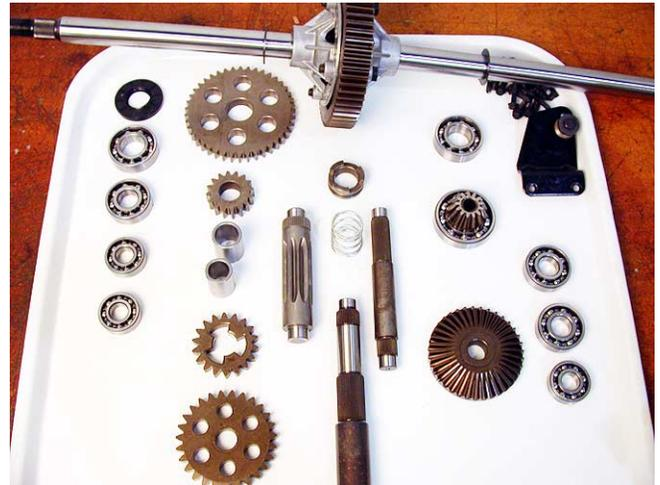

Figure 8.34
8.34. Inspect all parts. See Figure 8.34.